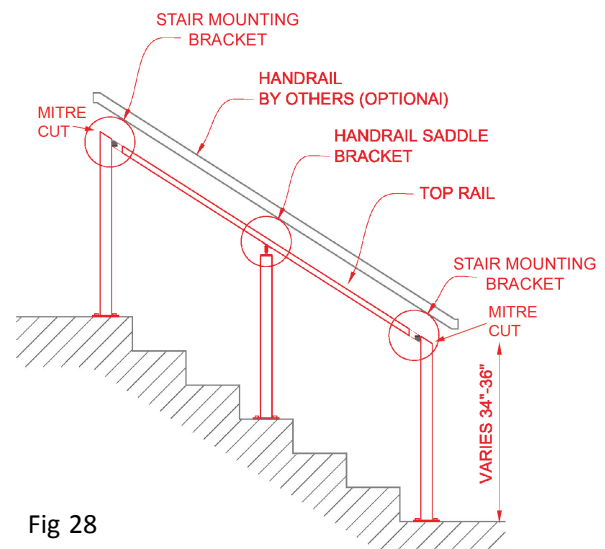

Fig 28
- Post-To-Post hand rail can also be combined with a wood top rail (Fig 28).